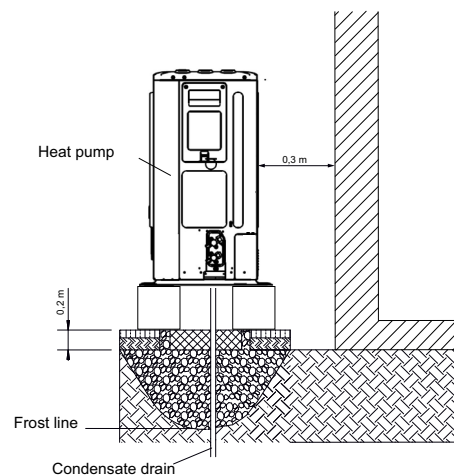
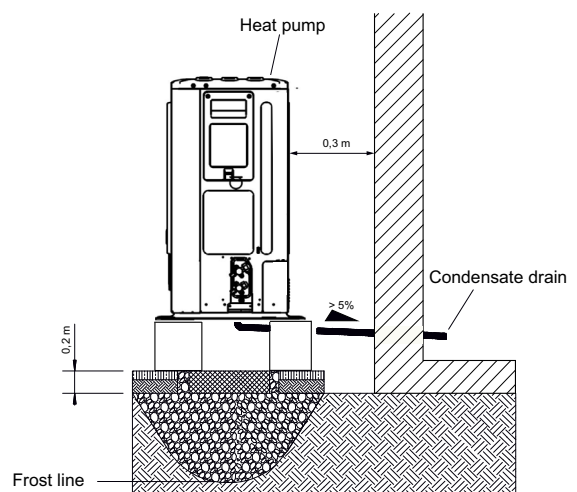

Abb. 5.1
Abb. 5.2
- It is advisable to install the outdoor unit close to a wall, on a foundation separate from the building with a minimum clearance of 0.3 m on the intake side (Fig. 5.1 + Fig. 5.2).
- The minimum clearances (Fig. 5.1) indicated must be adhered to.